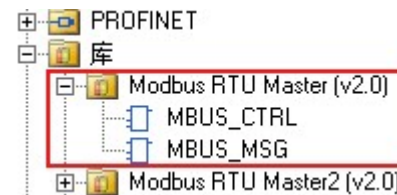

Figure 1: MODBUS communication library
Step 1: Find the library that supports MODBUS communication in the PLC software, as shown in Figure 1.